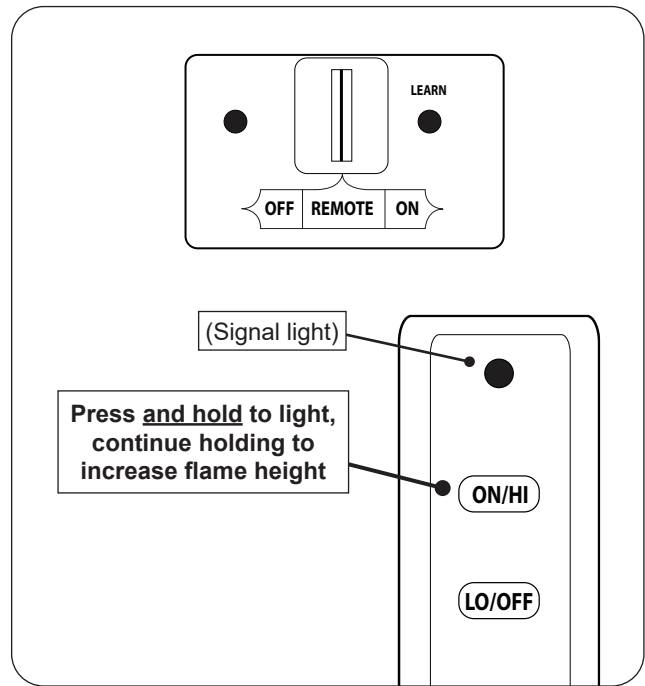

Fig. 35-1 Remote lighting
1. Ensure the pilot is burning. Locate the 3-position switch on the remote receiver, and slide the switch to **REMOTE** (see Fig. 35-1).
2. Locate the remote transmitter and press and hold the **ON/HI** button (see Fig. 35-1). The ignition sequence will begin.